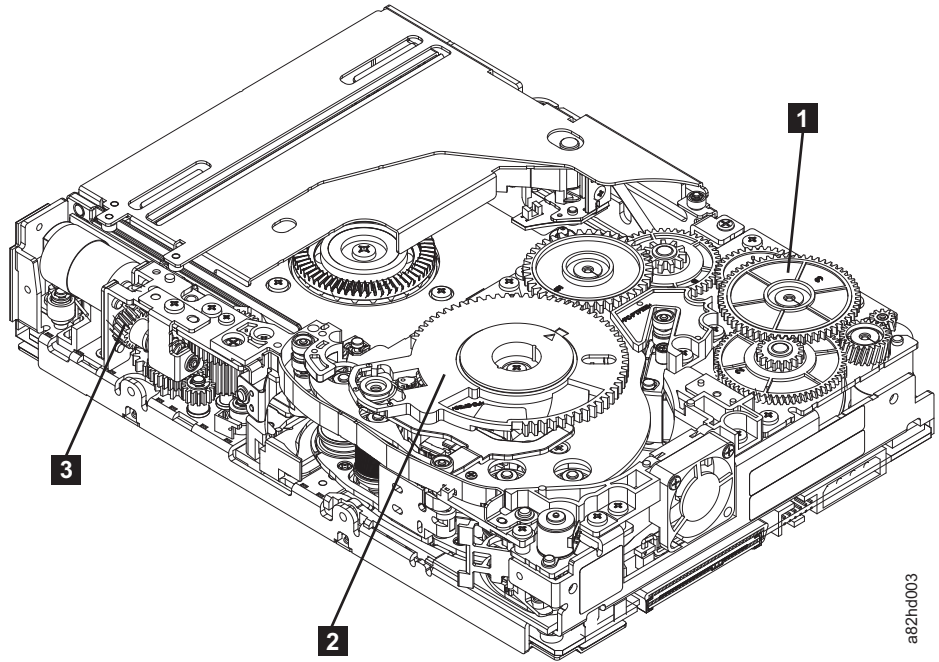

Figure 42. Drive with cover removed to reveal gear train.
4. Locate the threader intermediate gear (**1** in Figure 42 on page 103) near the rear of the drive. You can use your finger to rotate the threader intermediate gear (**1** in Figure 42 on page 103) and slowly rotate the threader mechanism gear (**2** in Figure 42 on page 103) clockwise.
5. As the leader pin is secured in the cartridge, you hear the leader pin retention spring clips click into place. If you do not hear the click, continue rolling until the threader intermediate gear (**1** in Figure 42) stops. The LBA is in the correct position.